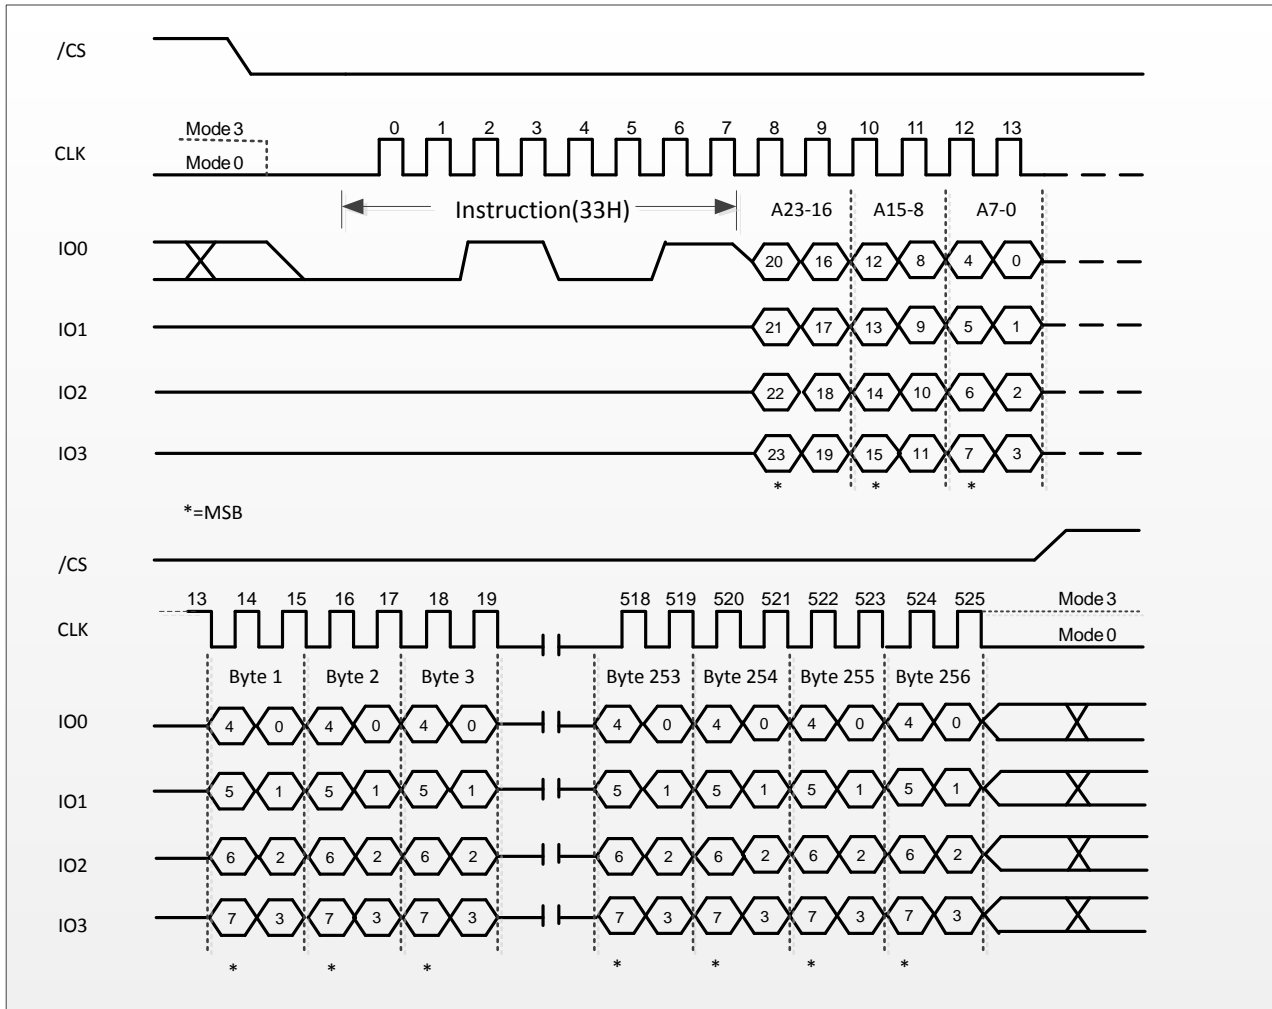

Figure 20. Quad Page Program Instruction (SPI Mode only)
The Quad Page Program (33h) instruction is similar to the Quad Input Page Program (32h) instruction except that address and data bits are both input and output through four pins IO₀, IO₁, IO₂ and IO₃. The Quad Page Program can improve performance for PROM Programmer and applications that have slow clock speeds <5MHz. Systems with faster clock speed will not realize much benefit for the Quad Page Program instruction since the inherent page program time is much greater than the time it take to clock-in the data. To use Quad Page Program the Quad Enable (QE) bit in Status Register-2 must be set to 1. The Quad Page Program instruction sequence is shown in Figure 20.